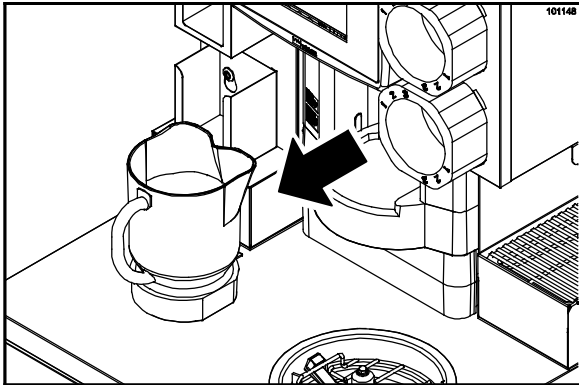

Figure 182
4. Remove the blender pitcher and discard the ice into the back sink. (See Figure 182.)